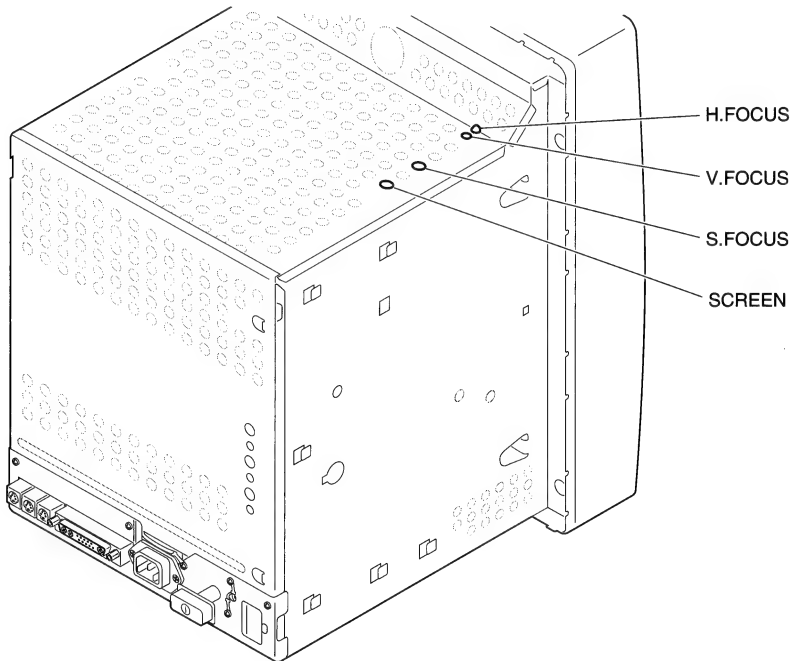

Figure 5 Focus Adjustment Control
3. FIGURE 5. Turn the SCREEN control to its full counterclockwise position.
4. FIGURE 5. Adjust the S.FOCUS control for the best overall focus.
5. FIGURE 5. Adjust the H.FOCUS control for the best focus on the left and right sides of the screen.
6. FIGURE 5. Adjust the V.FOCUS control for the best possible focus at the top and bottom of the screen.